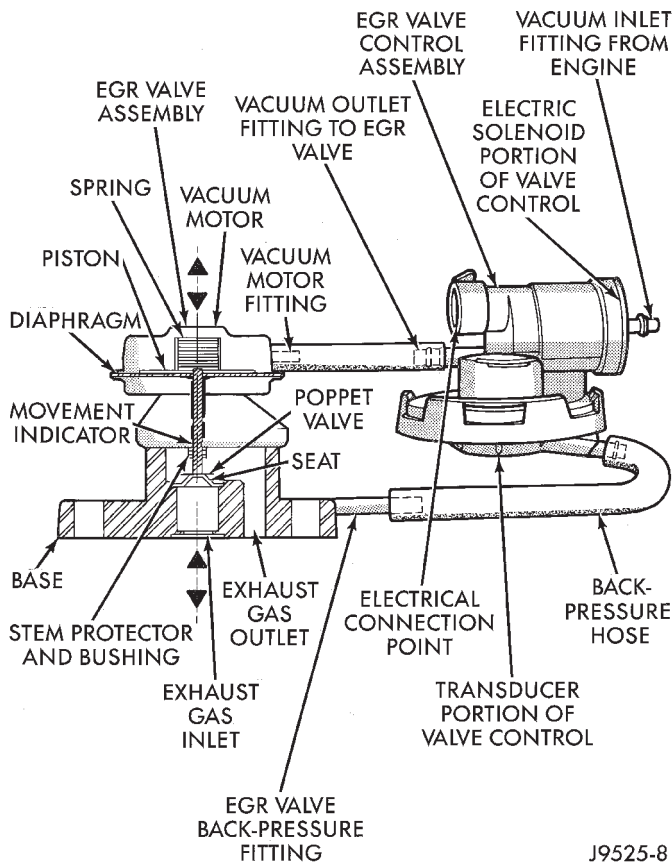

Fig. 5 EGR Valve and EGR Valve —Typical
(1) Check the condition of all EGR system hoses and tubes for leaks, cracks, kinks and hardening of rubber hoses. Repair and correct these conditions before performing any tests.
(2) Be sure the hoses at both the EGR valve and EGR valve control are connected to the proper fittings (Fig. 5).
(3) Be sure the electrical connector is firmly connected at the valve control.
(4) To check EGR system operation, connect the DRB scan tool to the 16-way data link connector. The data link connector is located on the lower edge of the instrument panel near the steering column. Refer to the appropriate Powertrain Diagnostic Procedures service manual for operation of the DRB scan tool when diagnosing the EGR system.
(5) After checking the system with the DRB scan tool, proceed to the following EGR Valve Leakage and EGR Valve Control Tests and repair as necessary.
If the engine will not idle, dies out on idle, or idle is rough or slow, the poppet valve (Fig. 5) at the base of the EGR valve may be leaking in the closed position.
(1) The engine should be off for the following test.
(2) Disconnect the rubber hose from the fitting (Fig. 5) at the top (vacuum motor) side of the EGR valve.
(3) A small metal fitting (back-pressure fitting) is located at the base of the EGR valve (Fig. 5). A rubber back-pressure hose connects it to the back-pressure fitting on the EGR valve control. Disconnect this rubber hose at the EGR valve fitting.
(4) Remove the air cleaner housing from the throttle body.
(5) Using compressed air, and using an air nozzle with a rubber tip, apply approximately 50 psi of reg-
(6) By hand, open the throttle to the wide open position. Air **SHOULD NOT BE HEARD** emitting from the intake manifold while applying air pressure at the back-pressure fitting.
(7) If air **CAN BE HEARD** emitting from the intake manifold, the poppet valve (Fig. 5) is leaking at the bottom of the EGR valve. Replace the EGR valve. Note: The EGR valve, valve control and attaching hoses are serviced as one assembly. Refer to EGR Valve Removal/Installation in this group. Do not attempt clean the old EGR valve.
(1) Disconnect the rubber back-pressure hose from the fitting at the bottom of EGR valve (Fig. 5).
(2) Connect a hand-held vacuum pump to this fitting.
(3) Apply 10 inches of vacuum to this fitting.
(4) If vacuum falls off, the valve diaphragm is leaking.
(5) Replace the EGR valve assembly. Proceed to next step for further testing.
(6) Remove the rubber hose at the vacuum **inlet** fitting (Fig. 5) on the EGR valve.
(7) Connect a vacuum gauge to this disconnected hose.
(8) Start the engine and bring to operating temperature. Hold engine speed at approximately 1500 rpm.
(9) Check for steady engine vacuum (full-manifold) at this hose.
(10) If engine vacuum (full-manifold) is not present, check vacuum line to engine and repair as necessary before proceeding to next step.
(11) Reconnect the rubber hose to the vacuum **inlet** fitting (Fig. 5) on the EGR valve.
(12) Disconnect the rubber hose at the vacuum **outlet** fitting (Fig. 5) on the EGR valve.
(13) Connect a vacuum gauge to this fitting.
(14) Disconnect the electrical connector (Fig. 5) at the valve control. This will simulate an open circuit (no ground from the PCM) at the valve.
(15) Start the engine and bring to operating temperature.
(16) Hold the engine speed to approximately 2000 rpm while checking for engine vacuum (full-manifold) at this fitting. **To allow full manifold vacuum to flow through the valve, exhaust back-pressure must be present at valve. It must be high enough to hold the bleed valve in the transducer portion of the valve closed.** Have a helper momentarily (a second or two) hold a rag over the tailpipe opening to build some exhaust back-pressure while observing the vacuum gauge. Heavy gloves should be worn. **Do not cover the tailpipe opening for an extended period of time as damage to components or overheating may result.**
(17) As temporary back-pressure is built, full manifold vacuum should be observed at the vacuum outlet fitting. Without back-pressure, and engine at approximately 2000 rpm, the gauge reading will be low. This low reading is normal. At idle speed, the gauge reading will be erratic. This is also normal.